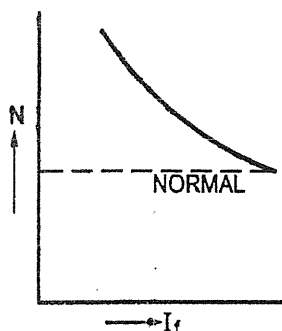

FIG. 4.44 : SPEED-FIELD CURRENT CHARACTERISTIC
- In this method, a variable resistor (R) is connected in series with the field winding. This reduces the field current, which reduces the flux and hence the speed increases.
- Fig. 4.44 shows the Speed V/S field current characteristic. It is seen that the speed is more for less value of the field current.